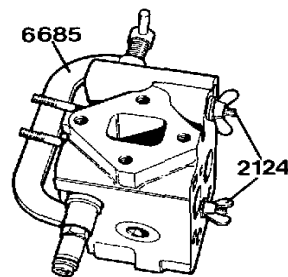

Fig. 21. Pressure-testing cylinder head, 100-series
1. 100-series: Fit the clamp 6685 and the expander screws 2124 (2x), see fig. 21.